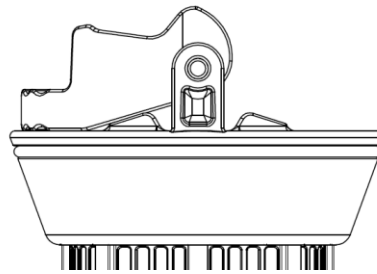

Fig. 7: Handle in "unlocked" position
- 2.1.1.2 Place basket on a level surface (basket will stand on its own), lay handle against basket ring in the “unlocked” position. (See fig. 7.)
- 2.5.1.5 After removing basket from body, place basket on a level surface (basket will stand on its own), lay handle against basket ring in the "unlocked" position. (See fig. 7.)